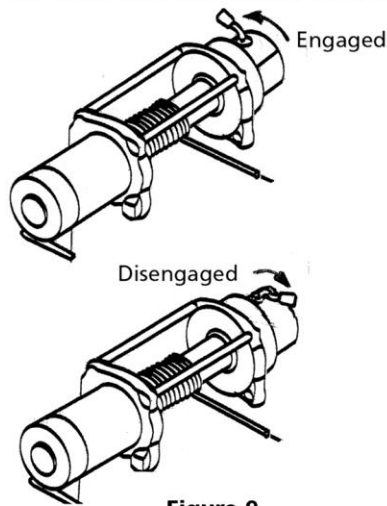

Figure 9
(See Figure 9) Set the freespool clutch knob to the "Disengaged" position. If there is a load on the wire rope the clutch knob may not move easily. **DO NOT FORCE THE CLUTCH KNOB.** Release tension on the clutch by jogging out some of the wire rope. Pull several feet of wire rope off the drum. Return the clutch knob back to "Engaged" position. Activate the winch in Cable Out momentarily to check drum rotation direction. If the drum rotates in the wrong direction, recheck your wiring. Release the clutch and pull out the wire rope and secure to anchor or load. Check that there are least five (5) turns of wire rope left on the drum. Re-engage the drum by returning the clutch knob to the "Engaged" position.